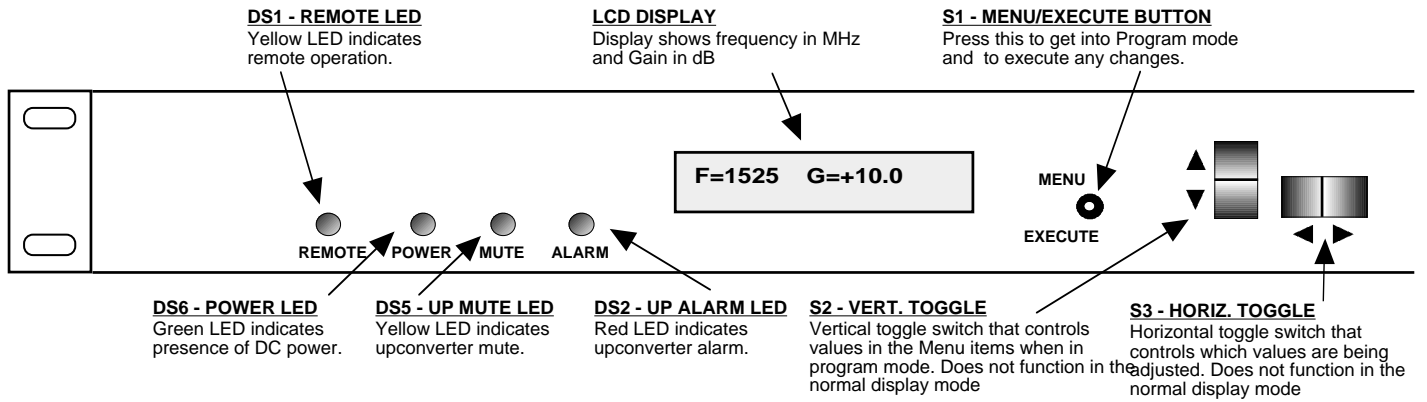

FIGURE 2.2 2015-04 Front Panel Controls and Indicators
7. Be sure DS6 (green, DC Power) is on and DS2 (red, Alarm) is off (Figure 2.2).
Alarm indications appear on the LEDs (see figure 2.2).